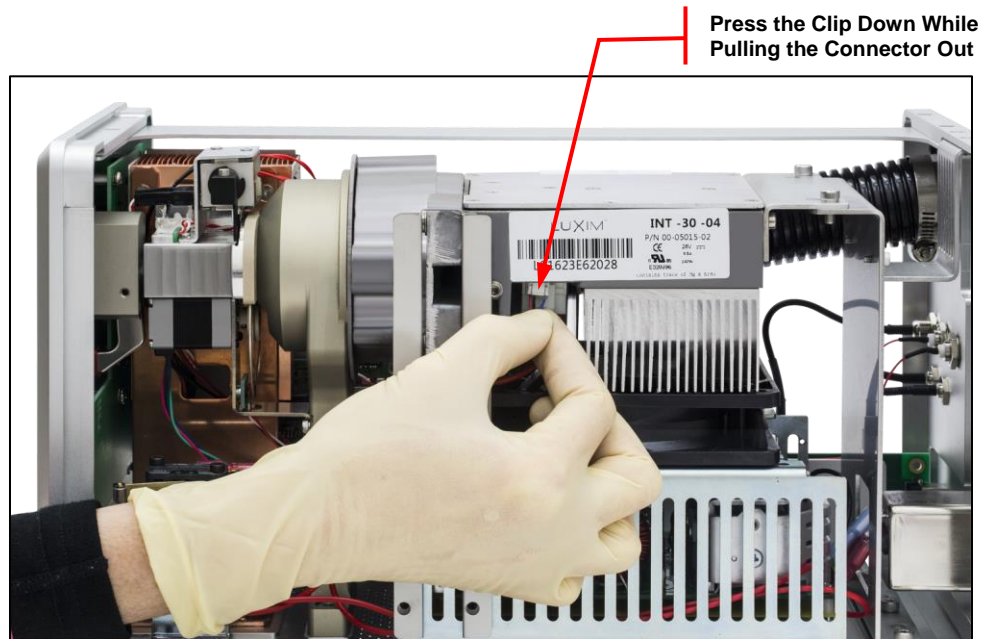

Figure 21 Remove the Smaller Cable First
4. Connect the small cable beneath the bulb module, as shown in Figure 21.